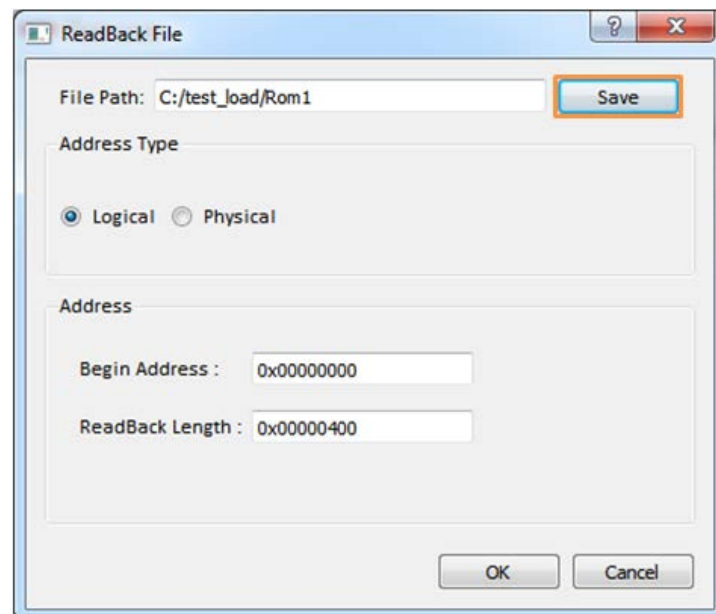

Figure 9. Opening the readback file
- 2) Click **SAVE** to provide the **File Path** of the readback file, as shown in Figure 9.
- 4) Provide **Begin Address** and **ReadBack Length** in their corresponding fields under **Address** section (see Figure 9).